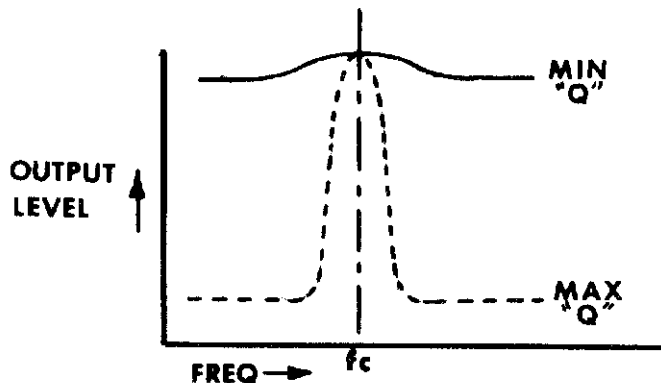

Figure 12 - Effect of varying Q on Band-Pass output.
The 4730 Filter has a maximum Q of greater than 150, so that at a center frequency of 1 kHz. the pass-band (at the band-pass output) would only be about 6.6 Hz. wide. Figure 12 on the right shows the effect that varying the Q control has on the frequency response of the filter as measured at the Band-Pass (BP) output. Since this graph is a plot of output level
The graph in figure 12 is a representation of the relative signal level that we would expect to find at the Band-Pass output of the filter if the input were a sine wave of varying frequency. If the input signal is something other than a sine wave the graph can be interpreted as showing us the relative output levels of the harmonics that make up the input signal.